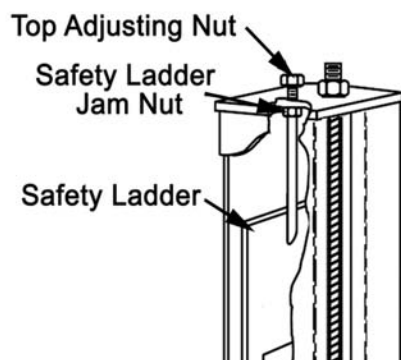

Fig. 16.5
10. To complete the leveling procedures, lock each safety ladder jam nut tightly against bottom of column top plate. (See Fig. 16.5)